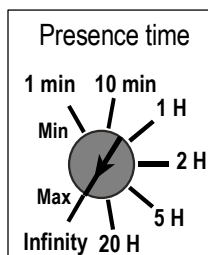

FIG. 1
- A potentiometer for adjustment of the maximum duration of a presence detection : from 1 min to infinity ; (see Fig. 1)